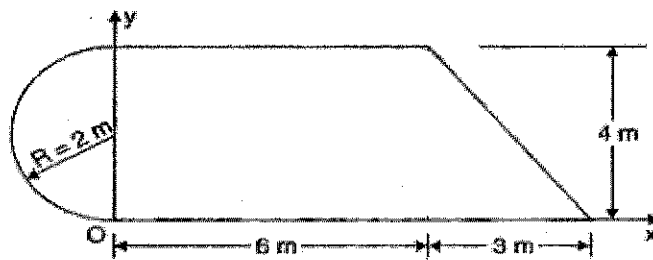

Figure 4
10. Locate the centroid of the given Figure 4